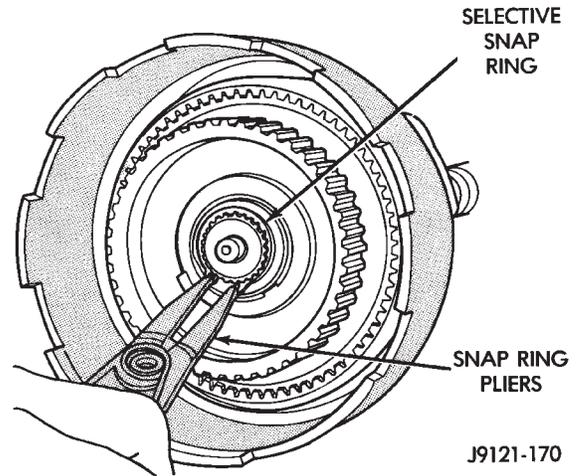
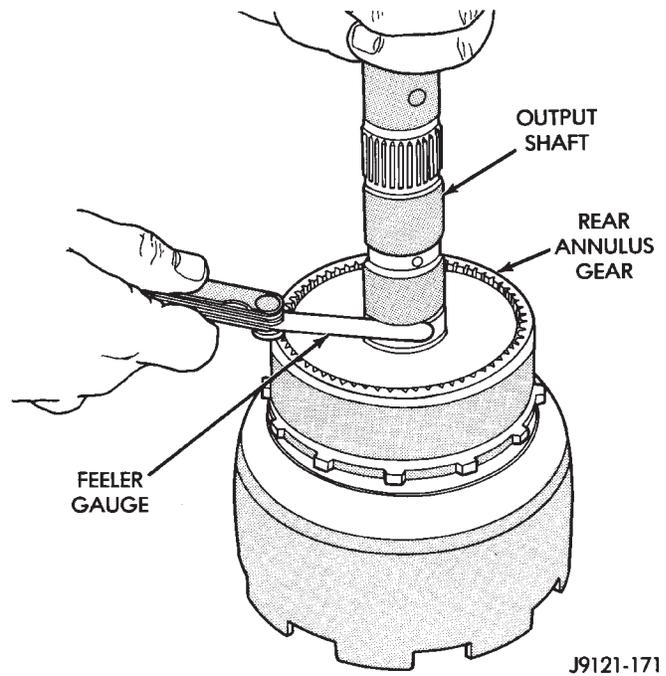

Fig. 206 Installing Planetary Selective Snap Ring
Fig. 207 Checking Planetary Geartrain End Play
(21) Install planetary selective snap ring with snap ring pliers (Fig. 206). Be sure ring is fully seated.
(22) Turn planetary geartrain assembly over so driving shell is facing workbench. Then support geartrain on wood block positioned under forward end of output shaft. This allows geartrain components to move forward for accurate end play check.
(23) Check planetary geartrain end play with feeler gauge (Fig. 207). Gauge goes between shoulder on output shaft and end of rear annulus support.
(24) Geartrain end play should be 0.12 to 1.22 mm (0.005 to 0.048 in.). If end play is incorrect, snap ring (or thrust washers) may have to be replaced. Snap ring is available in three different thicknesses for adjustment purposes.